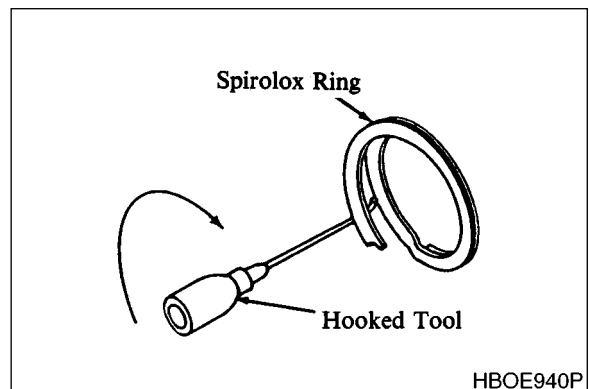

Figure 6 REMOVING SPIROLOX RING
4. Remove U-ring (36), O-ring (35), seal ring (34), and O-ring (33) from cartridge kit (39) and discard.
5. Pull and/or pry out center cartridge kit (39) from inlet housing (22).
6. Remove four screws (23) from inlet housing (22), then left off housing.
7. Pull shaft end cartridge kit (40) from body (1).
8. Pry under coil and remove spirolox ring (8) from body (1). (See Figure 6.)
9. Pull the shaft group (items 7, 6, and 5) from body (1). If bearing (6) or shaft (5) need replacement, remove retaining ring (7) with retaining ring pliers. Remove bearing (6) from shaft (5) by using an arbor press. Apply pressure to the inner race when removing bearing.
10. Remove washer (4) and primary shaft seal (3) from body (1).
11. Drive secondary shaft seal (2) out of mounting end of body (1).